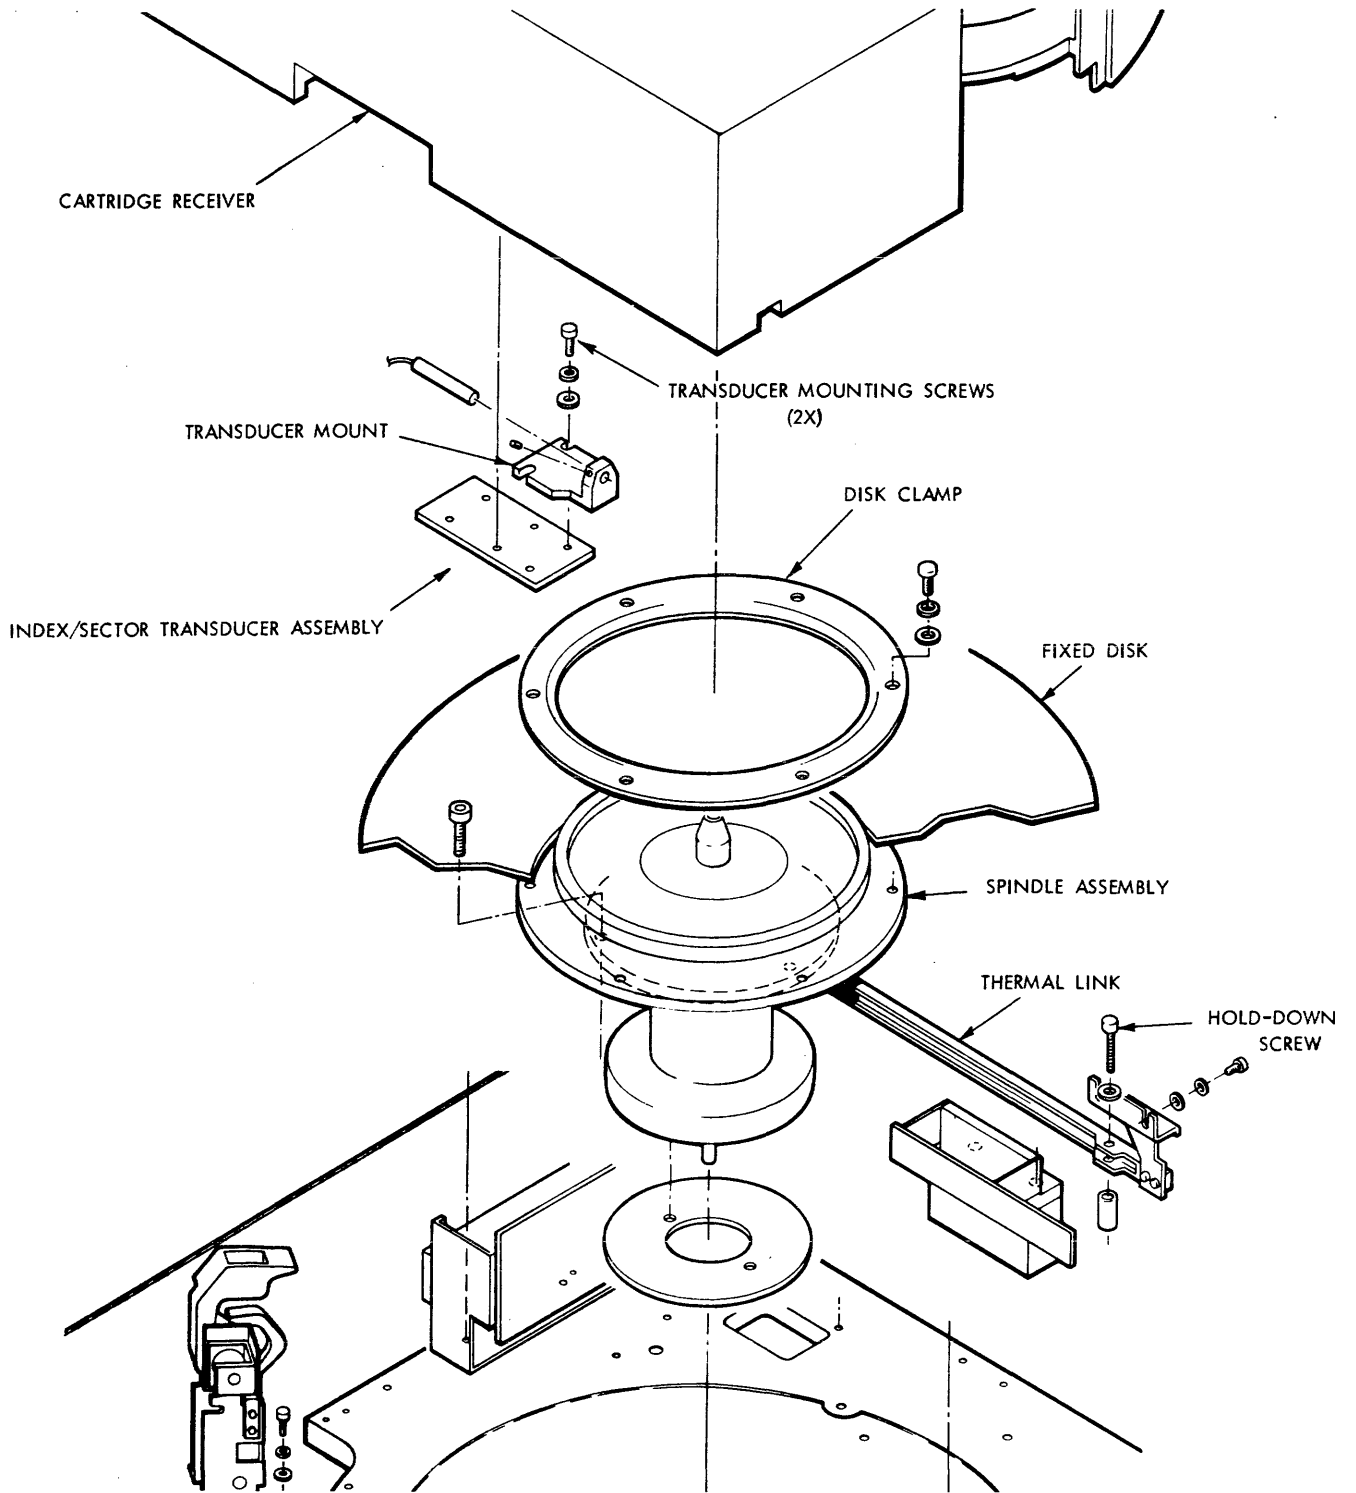

Figure 3-10. Fixed Disk Removal
12. Remove fixed disk clamp (see figure 3-10).